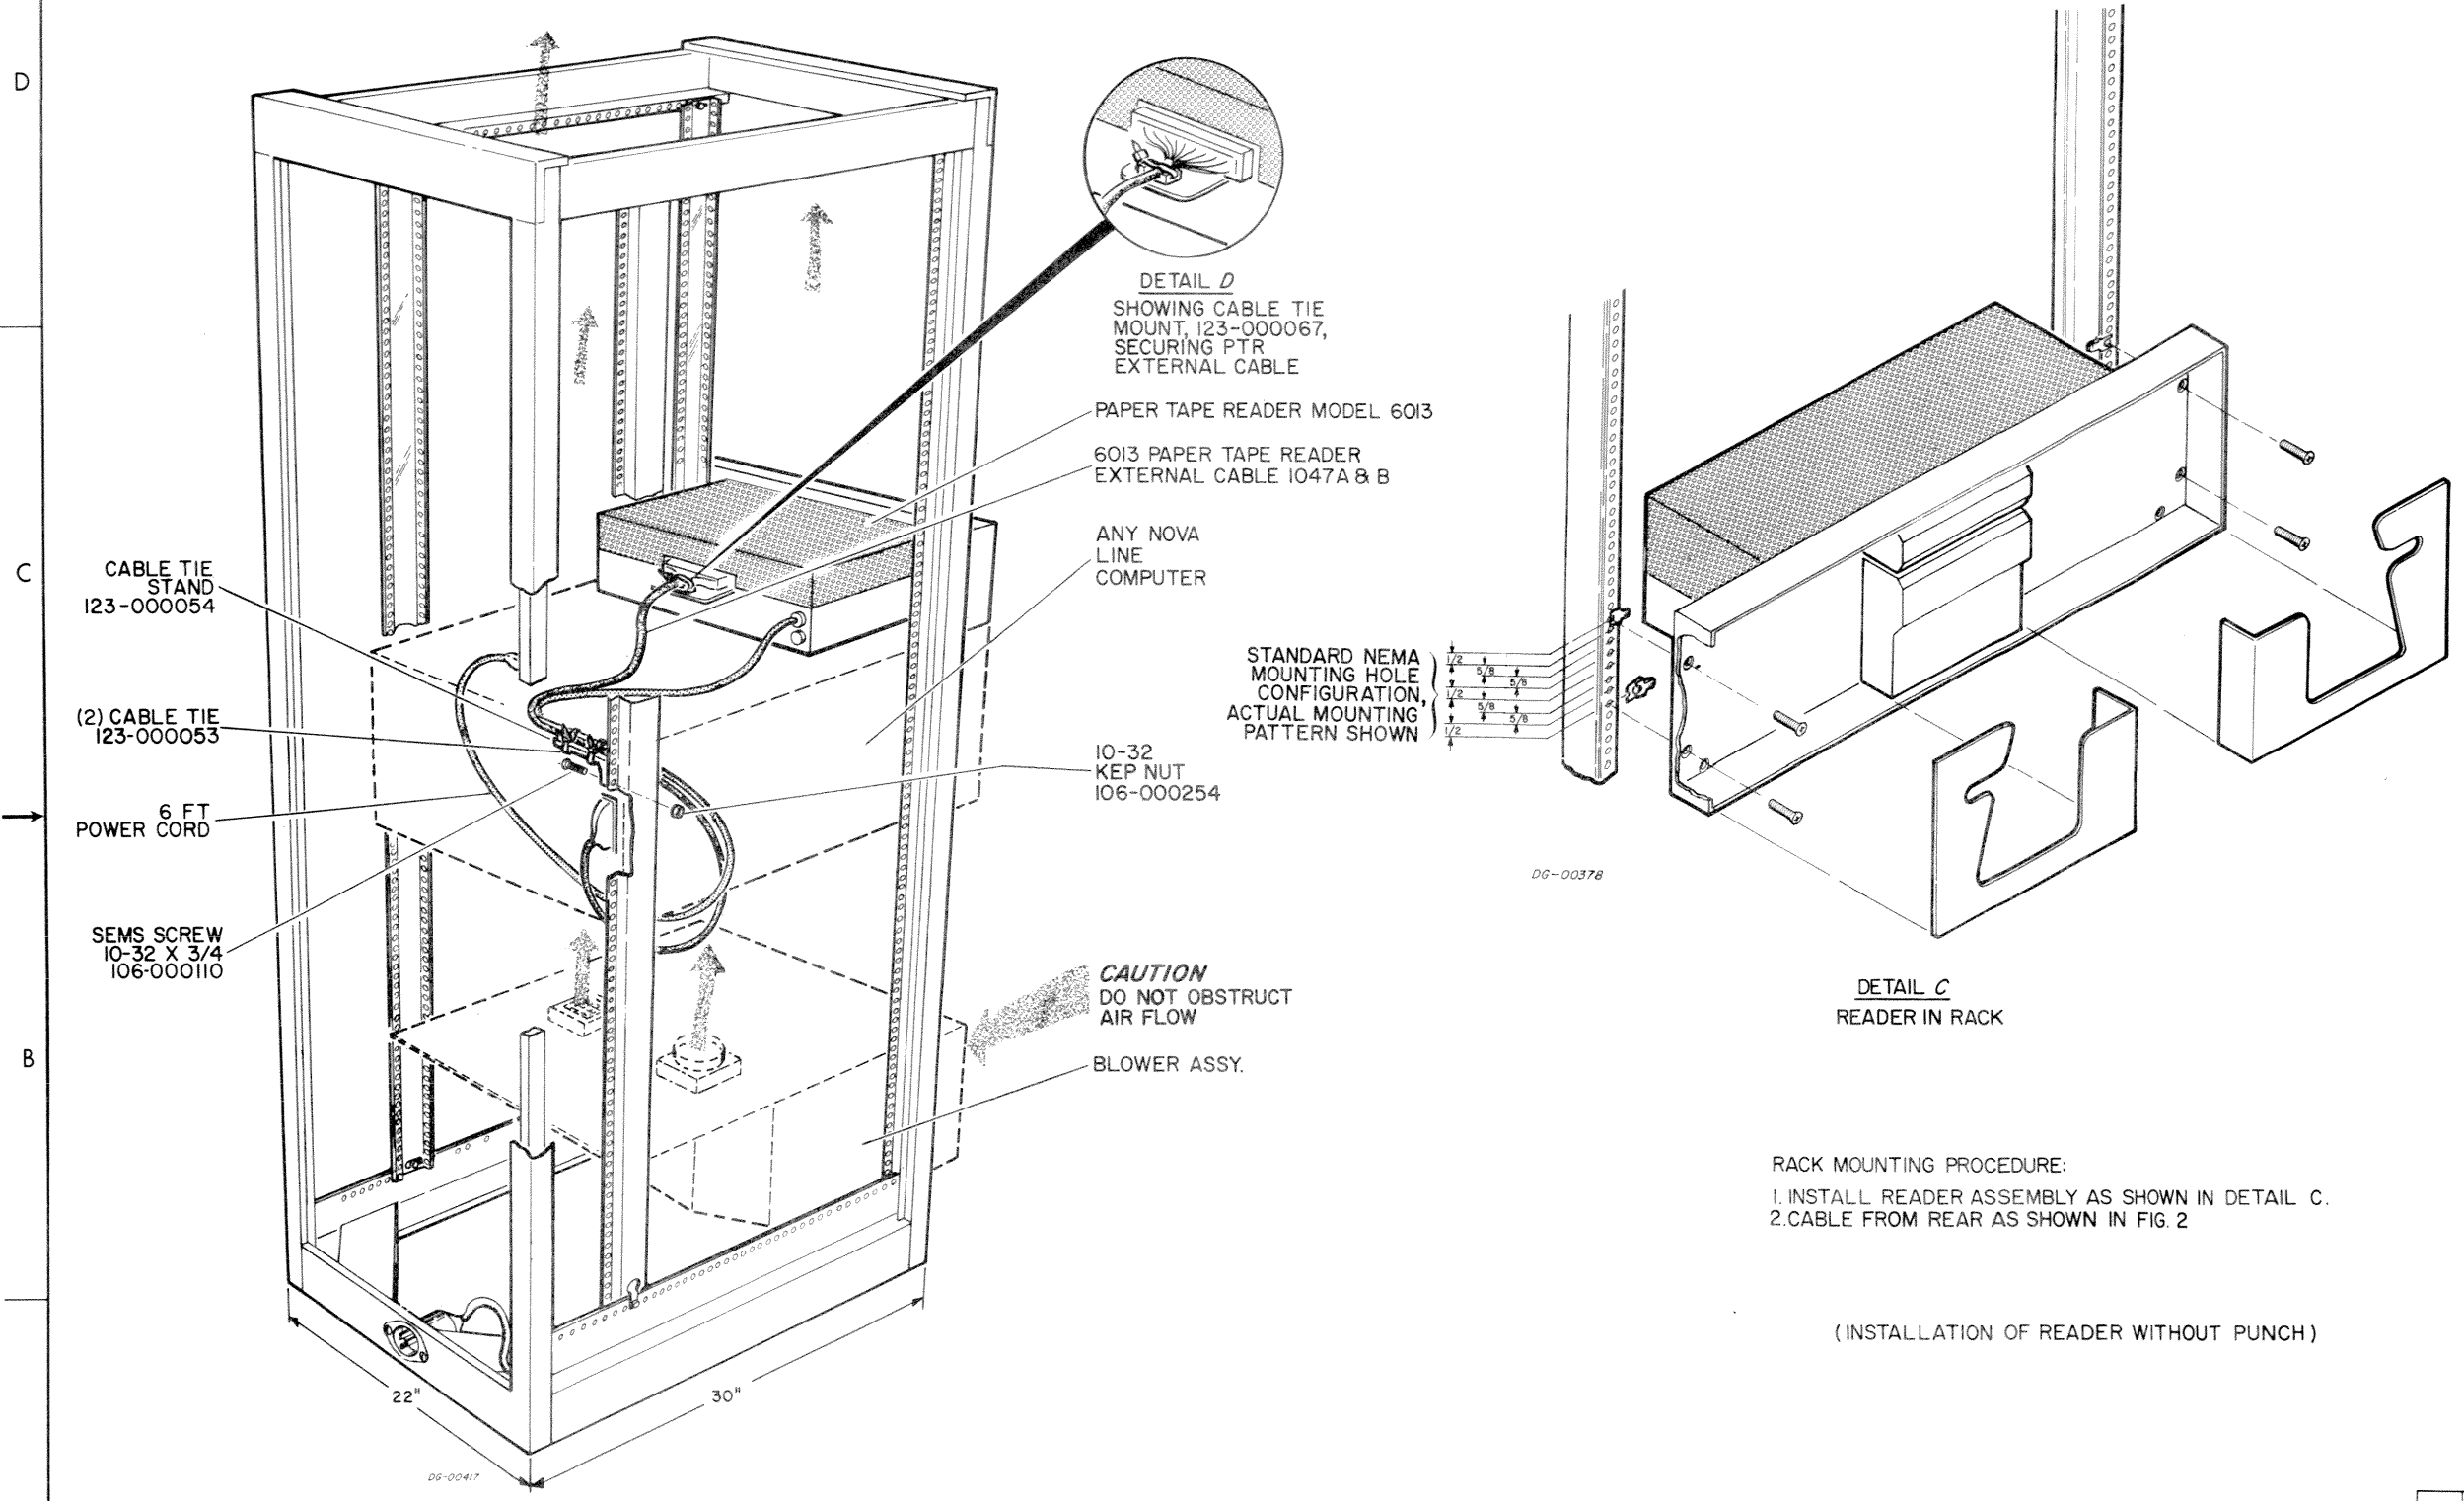

FIGURE 2
2. CABLE FROM REAR AS SHOWN IN FIG. 2